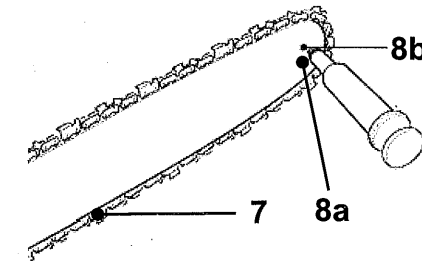

Fig. 43
2. Using a disposable lube gun, insert the needle nose into the lubrication hole (8a) and inject grease until it appears at the outside edge of the sprocket (Fig. 43).